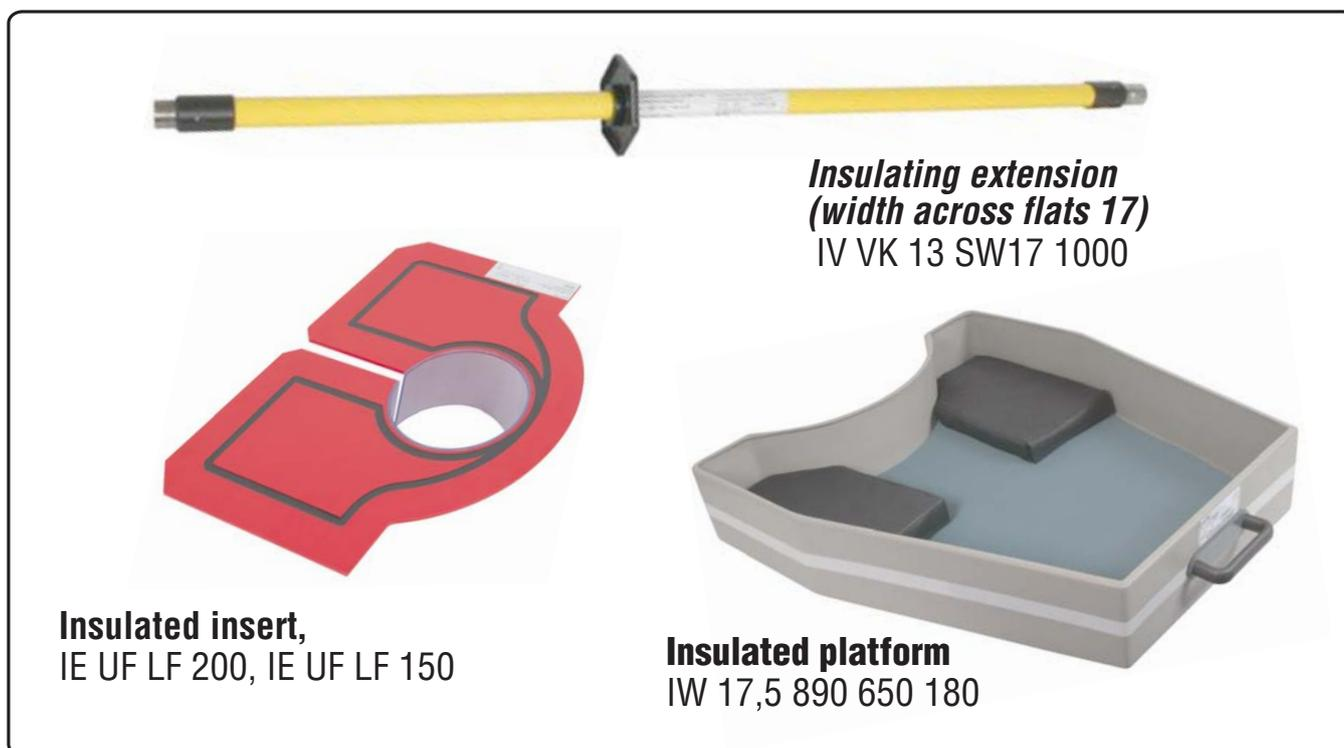

Fig 1.1.1 Insulating equipment
- 1.1.1 When replacing bulbs at airfield lightning systems, insulating gloves are used. During this procedure, the worker who is protected by insulating gloves and possibly insulated bracers directly contacts live parts. The insulating equipment serves as standing surface insulation (see Fig. 1.1.1).